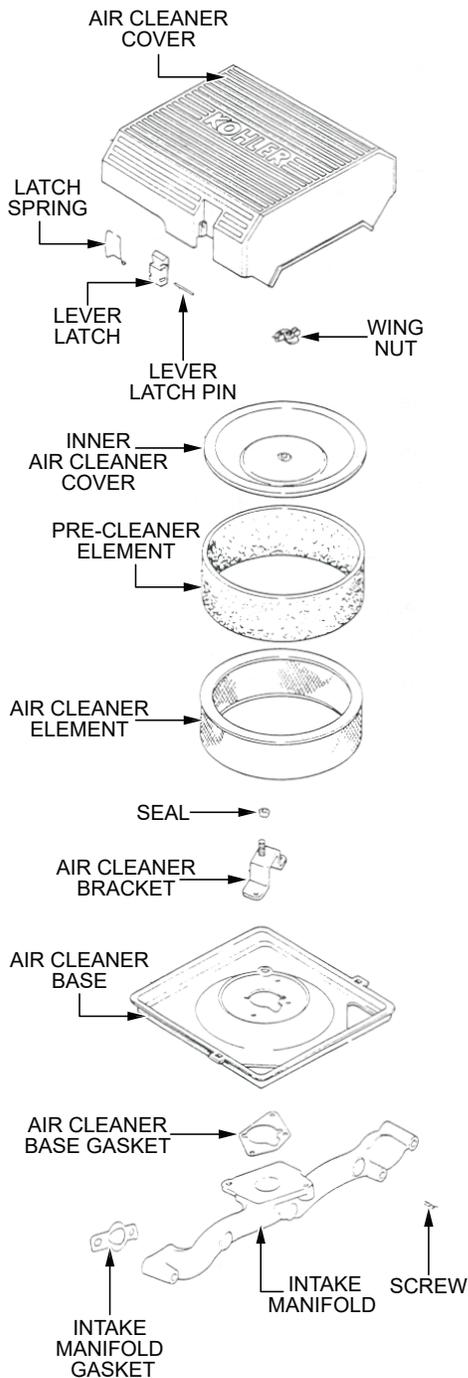

Figure 14. Air Cleaner Components
Wash and re-oil the precleaner element (if equipped) every 25 hours of operation. Service the precleaner element more often in extremely dusty or dirty conditions. Refer to Figure 14.
1. Release the latches located on either side of the air cleaner cover (Figure 14), and remove the cover.
Check the paper element every 100 hours of operation, and more often under extremely dusty or dirty conditions. Replace the element as necessary. Refer to Figure 14.